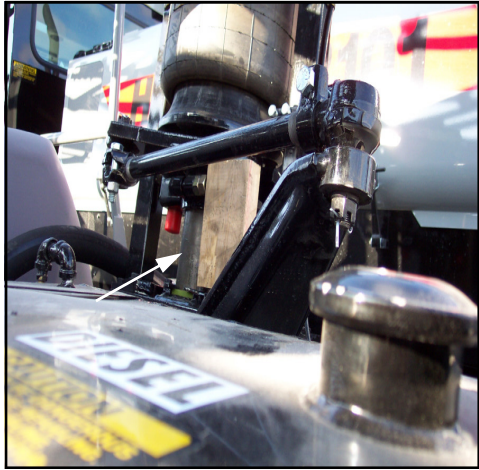

FIG. 4.3
5. Place a suitable block under the air bag mounting plate before raising the sprayer (fig. 4.3). This will prevent the suspension from telescoping.